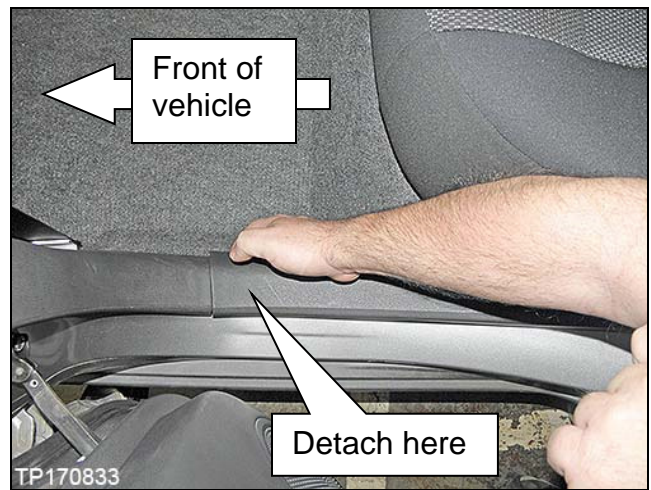

Figure 11
a. Slide fingers between the rear kicking plate and carpet where shown in Figure 11.